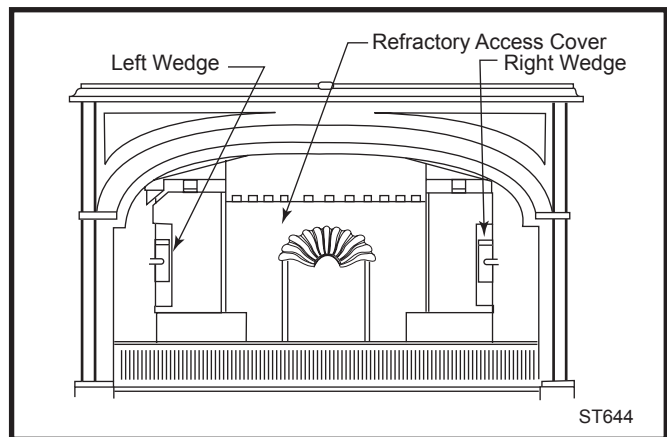

Fig. 49 Release the lower fireback by tapping out two wedges.
3. Release the fireback by prying the left and right wedges upward. (Fig. 49)